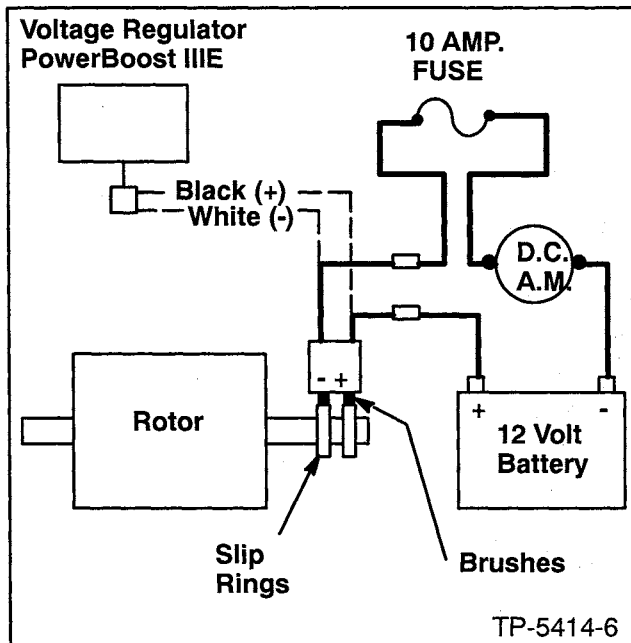

Figure 7-2. Separate Excitation Connections (PowerBoost IIIIE).
2. Connect an ammeter and a 12-volt automotive battery to the positive (+) and negative (-) brush leads. Include a 10-amp. fuse to protect the circuit in case of a shorted rotor. Refer to Figure 7-2. Note and record the ammeter reading.